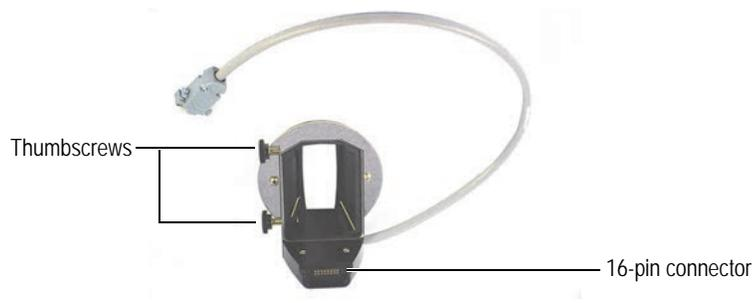

Figure G-10 The probe adaptor
2. Connect the DELTA analyzer to the probe adaptor's 16-pin connector (see Figure G-10 on page 159).